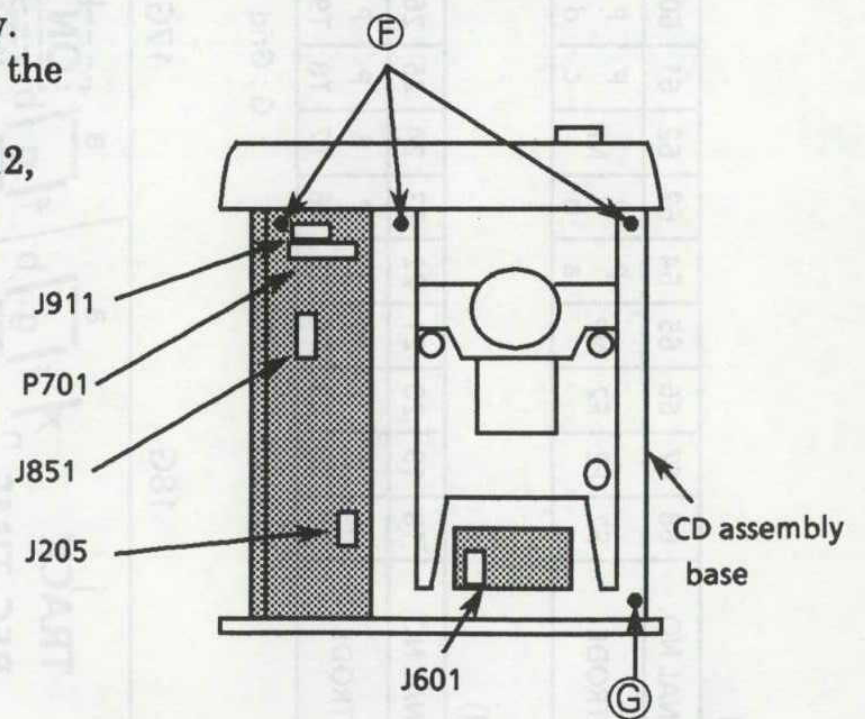

Fig 4 Top view
5. Remove the 3 screws (F) (Fig 4).
6. Remove the screw (G) on the CD assembly base.